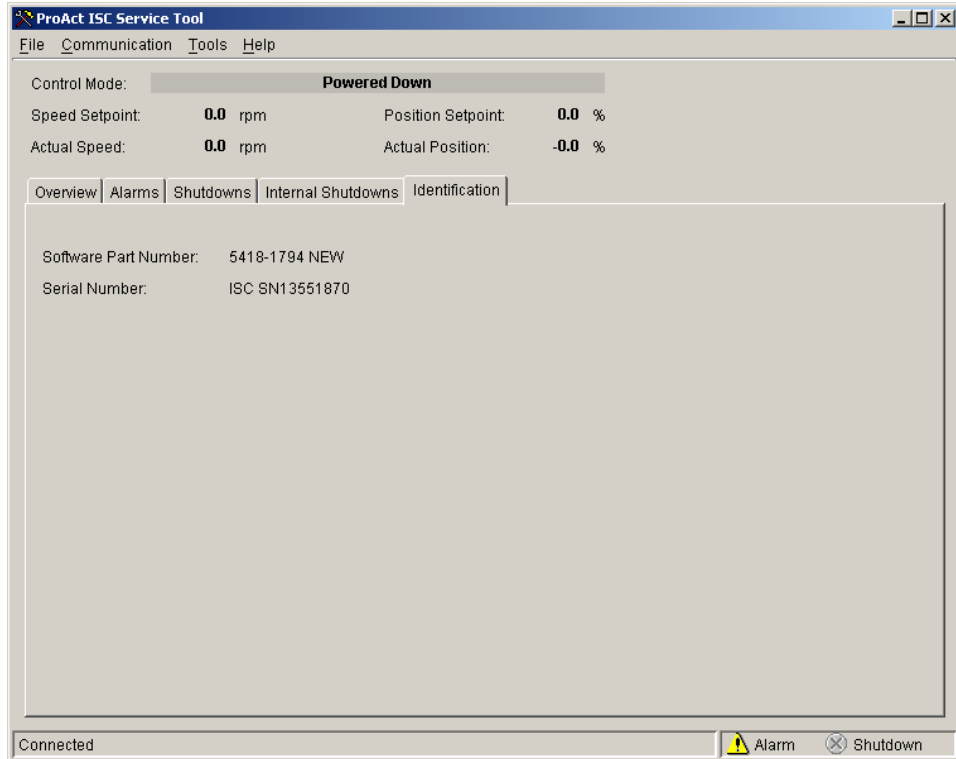

Figure 4-7. Service Tool—Identification Tab
- Identification, (see Figure 4-7)